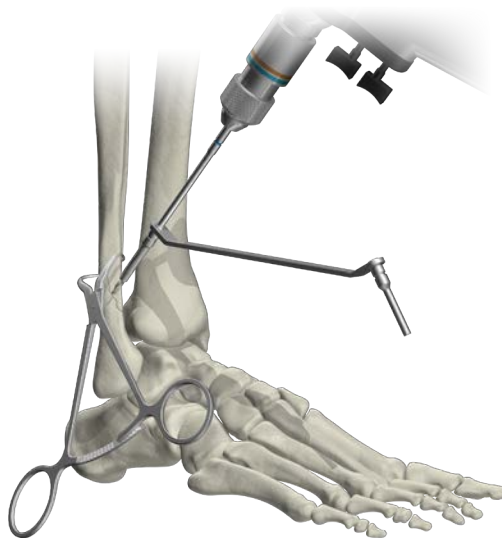
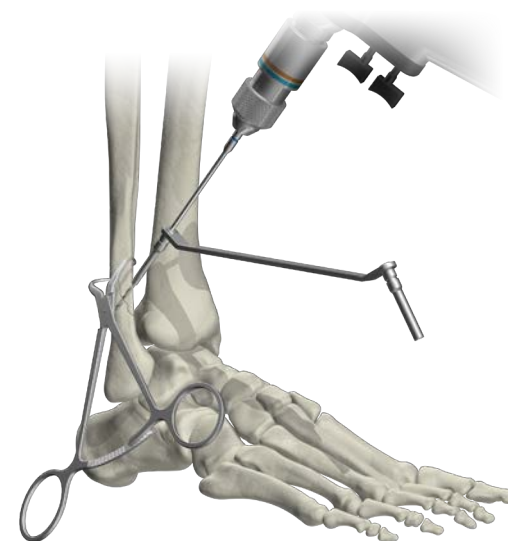

FIGURE 1
FIGURE 2
1. Use the 3.5mm Over Drill with the over drill side of the 3.5mm Drill Sleeve to perform a lag by drilling technique (**FIGURE 1**). Maintaining position, flip the Drill Guide to pilot drill across the fracture line bicortically with the 3.5mm Pilot Drill (**FIGURE 2**).